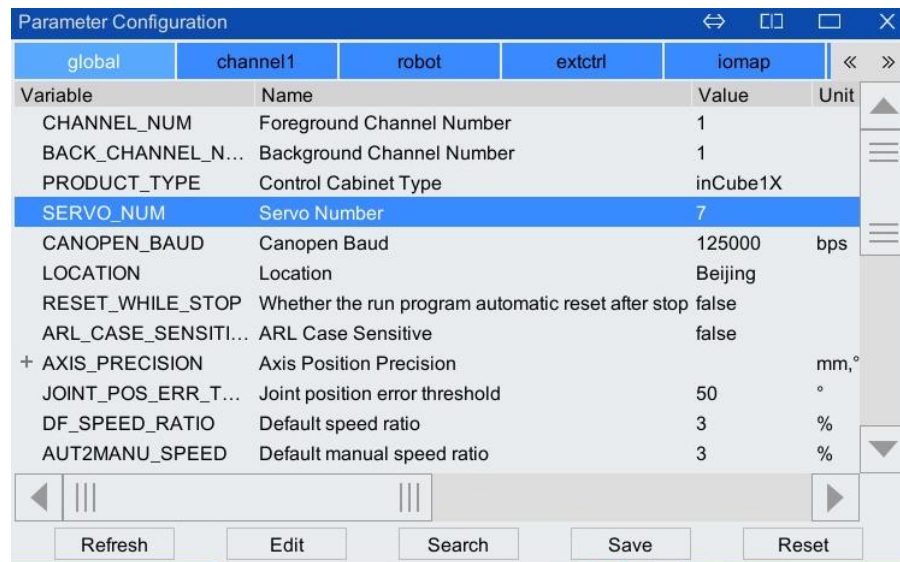

Figure 6-1 [System/Parameter Configuration/Global] configuration interface
Step1. In the [System/Parameter Configuration/Global] interface, you can see that the [SERVO_NUM (Servo Number)] parameter value is "7". As shown in Figure 6-1.